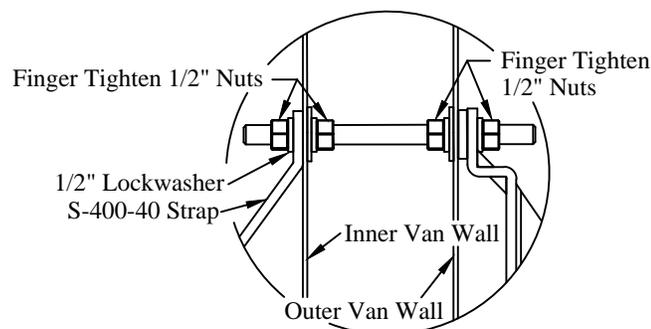

Figure 9: Mounting ear bolt hardware assembled.
15. Finger Tighten the (total of 8) inner and outer 1/2" nuts (Figure 9).